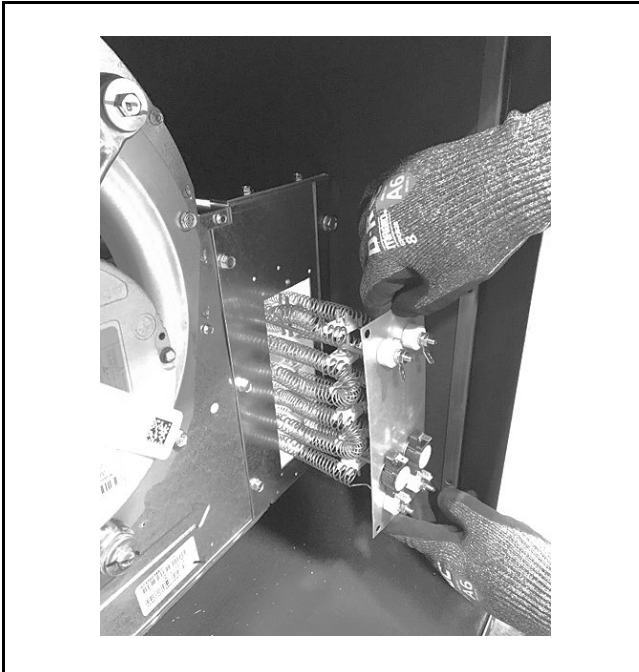
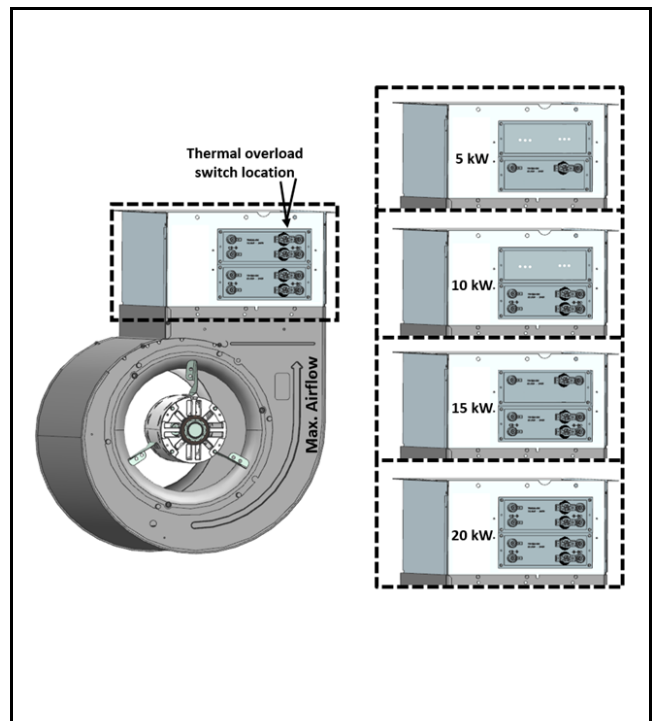

Fig. 8 Electric Heat Element Orientation
Fig. 11 Electric Heat Elements Installed
4. In preparation for the heater element installation, orient the heating elements with thermal overloads directly in-line with discharge air stream. This will ensure the heater elements thermal overloads are exposed to airflow. (See Fig. 8 and Fig. 11.)
The installed heating element should look like the following for each kit. (See Fig. 11.)